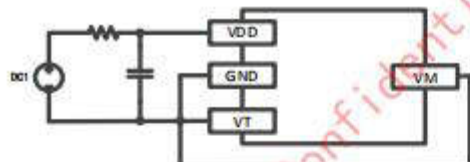

Figure6-5
a. As shown in the figure6-5, connect the positive pole of DC1 to B +, and the negative pole to GND, and set the voltage to 3.6V;